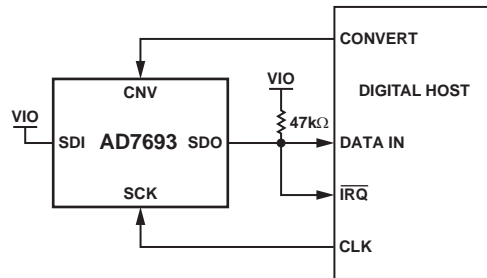
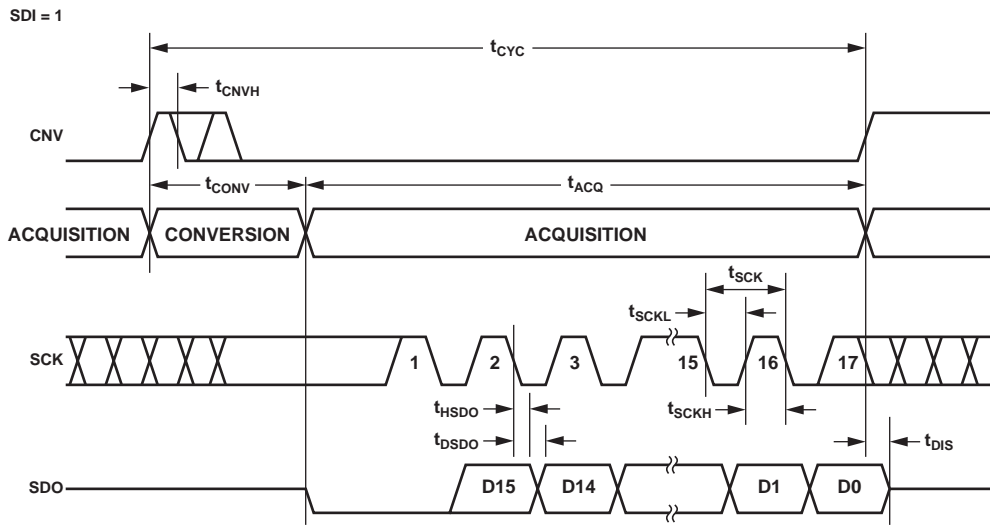
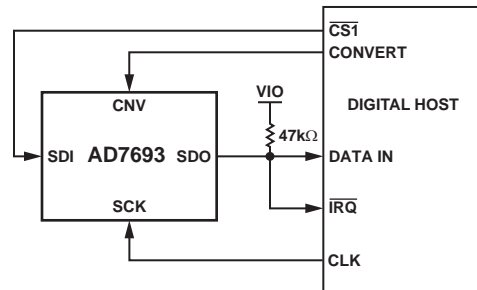
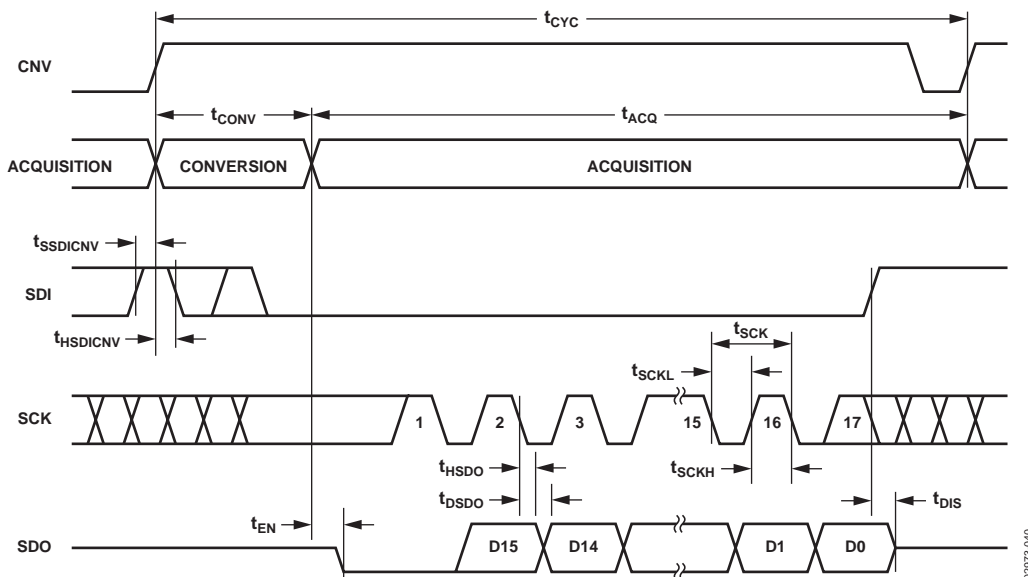

Figure 20. \overline{CS} Mode 3-Wire with BUSY Indicator Connection Diagram (SDI High)
Figure 21. \overline{CS} Mode 3-Wire with BUSY Indicator Serial Interface Timing (SDI High)
Figure 24. \overline{CS} Mode 4-Wire with BUSY Indicator Connection Diagram
Figure 25. \overline{CS} Mode 4-Wire with BUSY Indicator Serial Interface Timing
- In the $\overline{\text{CS}}$ mode, if CNV or SDI is low when the ADC conversion ends (Figure 21 and Figure 25).
The connection diagram is shown in Figure 20 and the corresponding timing is given in Figure 21.
The connection diagram is shown in Figure 24 and the corresponding timing is given in Figure 25.